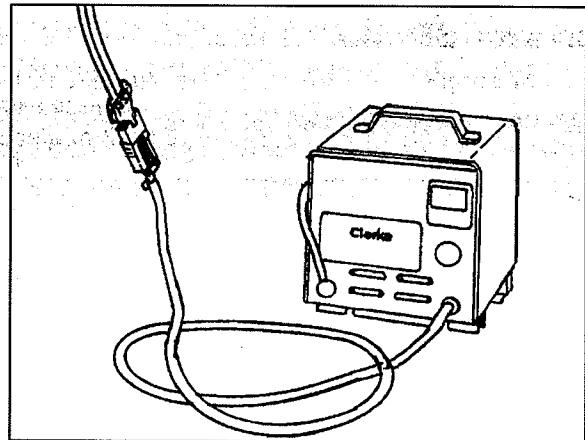

Figure 8A
5. Connect the DC connector on the charger to the battery pack connector. See figure 8A.